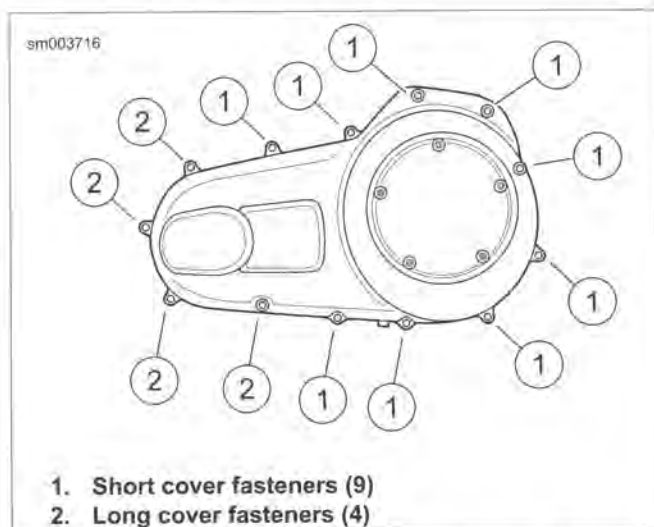

Figure 5-1. Primary Chaincase Cover: Touring Models
8. See Figure 5-1. Remove nine short (1) and four long (2) cover fasteners. Remove cover.
3. See Figure 5-1. Apply a drop of LOCTITE 243 MEDIUM STRENGTH THREADLOCKER AND SEALANT (blue) to each cover fastener. Install nine short (1) and four long (2) fasteners in positions shown. Snug fasteners.